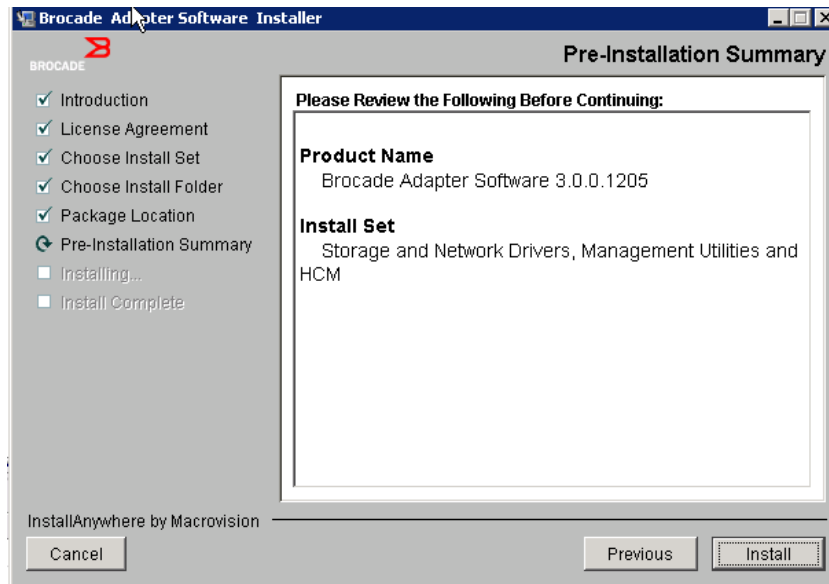

FIGURE 15 Pre-Installation Summary screen
11. When the **Pre-Installation Summary** screen displays (Figure 15 on page 74), review the information and select **Install** to confirm and begin the installation.